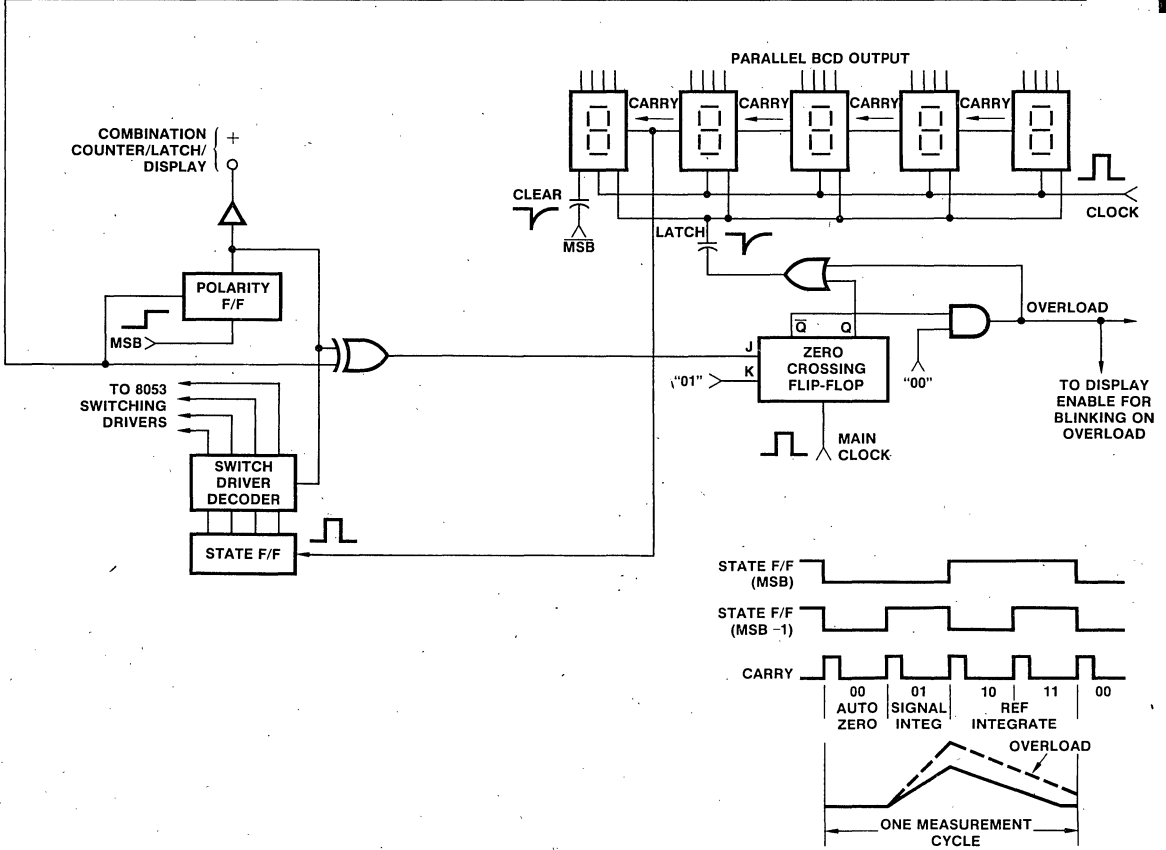

Figure 4: Functional Diagram for A/D Converter
Figure 4 shows a function diagram for an A-D converter using the ICL8052/8053 pair. In this circuit, each measurement cycle is divided into four equal parts by the state F/F. The first part, state 00, is the auto-zero cycle. The switch driver decoder recognizes this state and turns on hex switches number 1, 2, and 3. Switches 1 and 2 impress a voltage equal to V_{REF} across the reference capacitor. Switch 3 closes a loop around the integrator and comparator. The purpose of this loop is to charge up the auto-zero capacitor until the integrator output no longer changes with time. During the second state, 01, switches 1, 2 and 3 are opened and switch 4 is closed. If the input voltage is zero, the buffer, integrator and comparator will see the same voltages that existed in the previous state. Thus, the integrator output will not change but will remain stationary during the entire signal-integrate cycle. If V_{IN} is not equal to zero, an unbalanced condition exists compared to the auto-zero cycle and the integrator will generate a ramp whose slope is proportional to V_{IN} . At the end of this cycle, the sign of the ramp is latched into the polarity F/F. The final cycle, reference integrate, includes states 10 and 11. The switch driver decoder uses the output of the polarity F/F in deciding whether to close switch 5 or 6. If the input signal was positive, switch 6 is closed and a voltage which is V_{REF} more negative than during auto-zero is impressed on the buffer input. If the input signal was negative switch 5 is closed and a voltage which is V_{REF} more positive than during auto-zero is impressed on the buffer input. Thus, the reference capacitor generates the equivalent of a (+) reference of a (-) reference from the single reference voltage with negligible error. The reference voltage returns the output of the integrator to zero. The time, or number of counts, required to do this is proportional to the input voltage. Since the reference cycle can be twice as long as the signal integrate cycle, the input voltage required to give a full scale reading $\approx 2 V_{REF}$. The circuit, as described to this point, is not new to this application. It has been used successfully for several years. However, this system makes three major contributions to the accuracy of this circuit. These are: (1) low charge injection, (2) junction FET op amp, and (3) zero-crossing flip-flop.